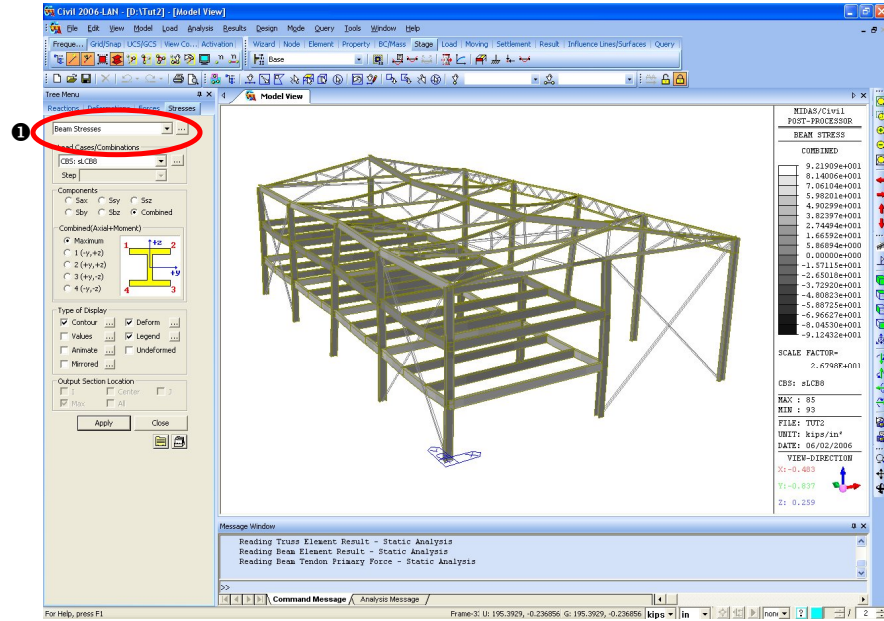

Figure 2.35 Combined Stress Diagram of Beams
4. Select the **Stresses** in the post-processing functions tab (Fig.2.35–1).